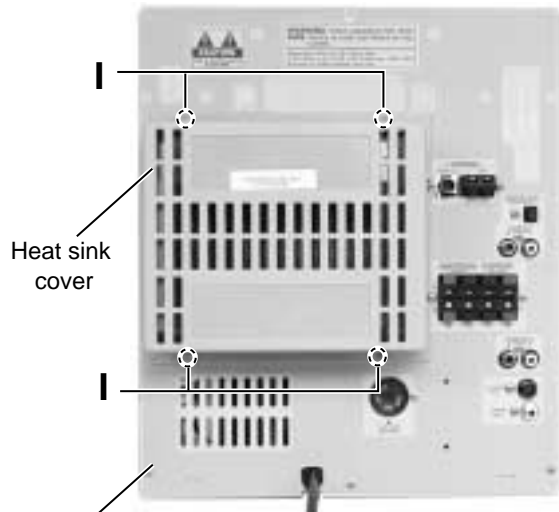

Fig.10
■ Removing the heat sink, AMP board and DVD power board (See Fig.10 to 12)